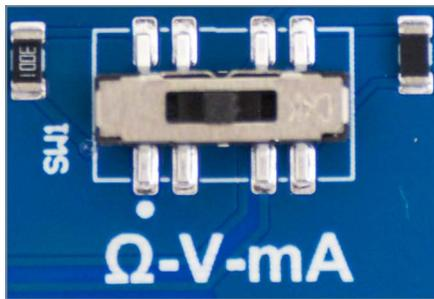

FIGURE 15: Analog Mode Selector Switch
8. **Analog Data Loggers Only:** Confirm the selector switch (located under the terminal block, see Figure 15) is set to the appropriate mode for the sensor being read. See Appendix D for examples on wiring and selector switch configuration.